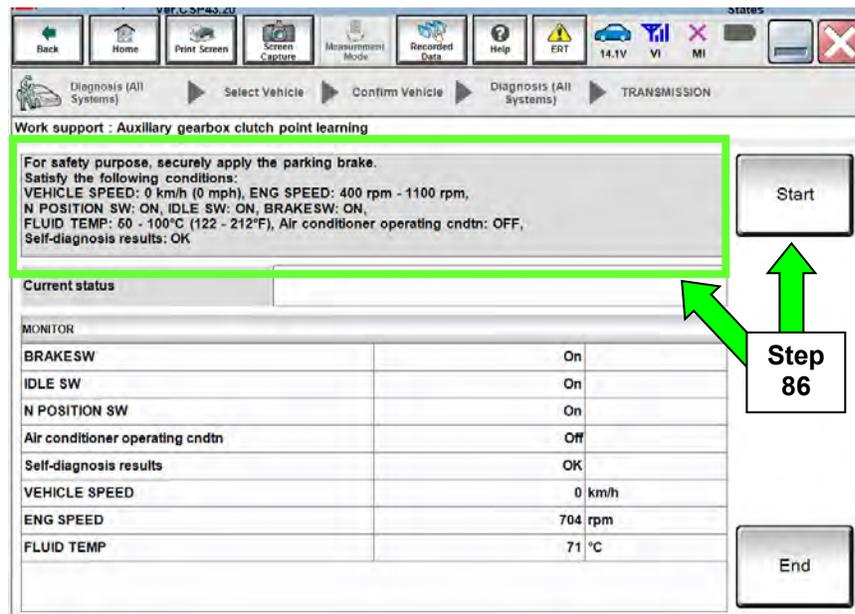

Figure 51
86. Follow the on screen instructions to meet all parameters displayed in Figure 51, and then select **Start**.